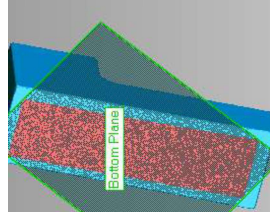
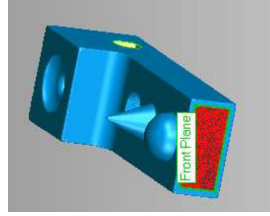

Figure 68
Figure 70
- Make selections and **Name** the planes as shown in **Figure 68** to **Figure 70**. Click **Apply** to create and **Next** to move to the creation of the next plane feature.